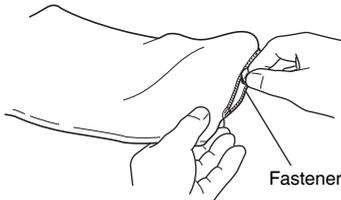

Fig. 10
- (1) Hold the clasp, open the thrusting mouth of the dust bag, and pull it off from the body.
- (2) Open the fastener (Fig. 10) and dump the sawdust.